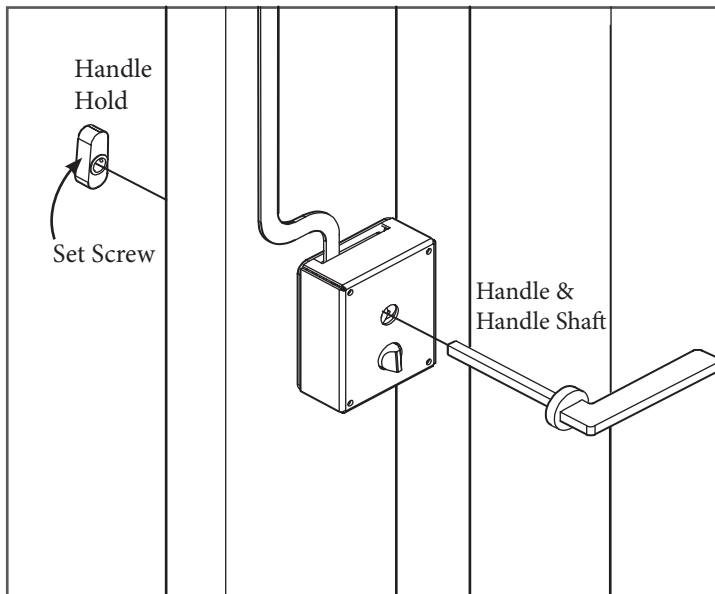

Figure 17
30. Insert the handle through the top hole of the lock on the front of the door. Slip the handle hold over the handle shaft and secure by tightening the set screw with an 1/8" Allen wrench (Figure 17).